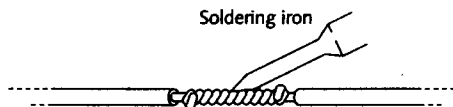

FIGURE 8-3: Heating the wires
3. Place the tip of your hot soldering pencil against the bare wire junction, about in the middle (see Figure 8-3).